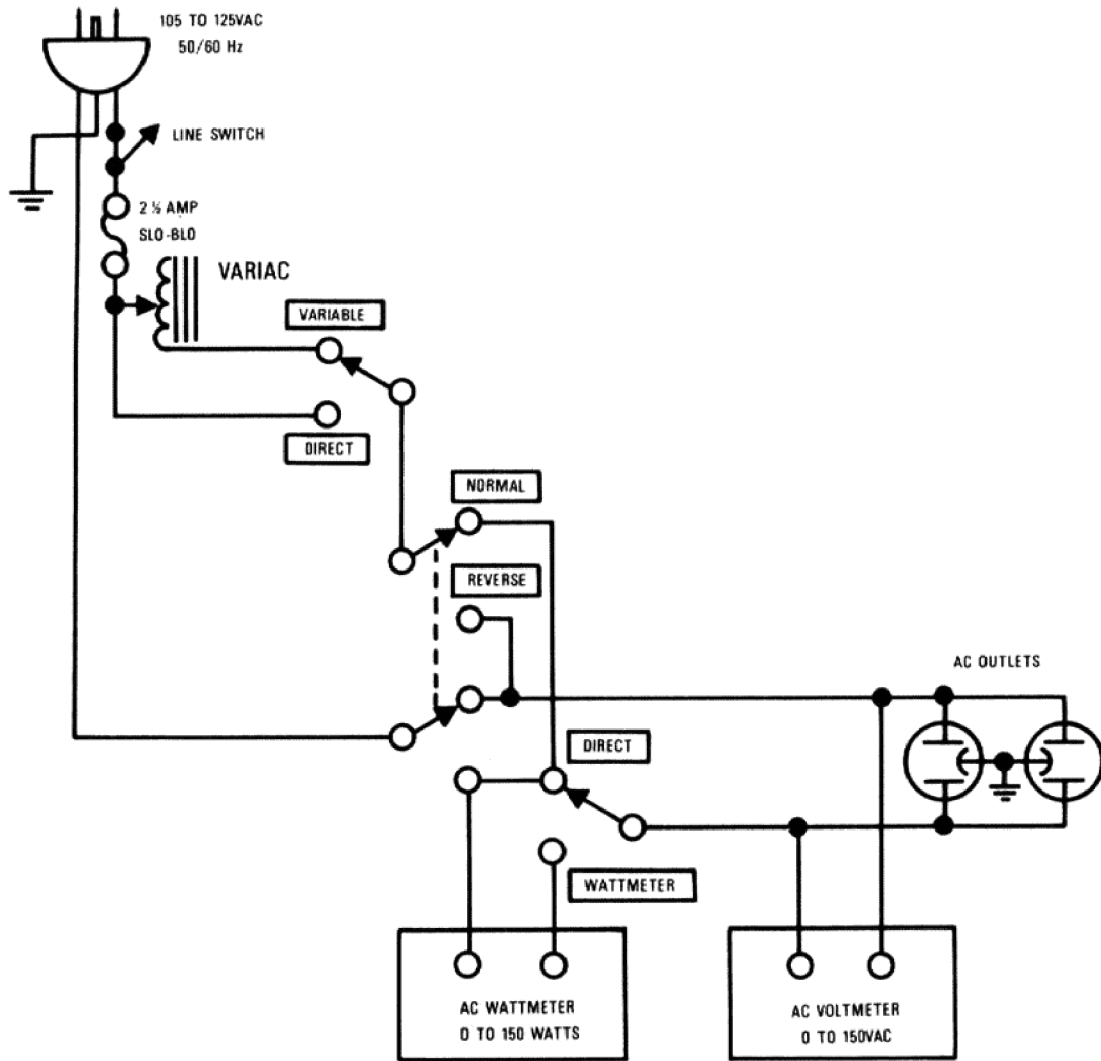
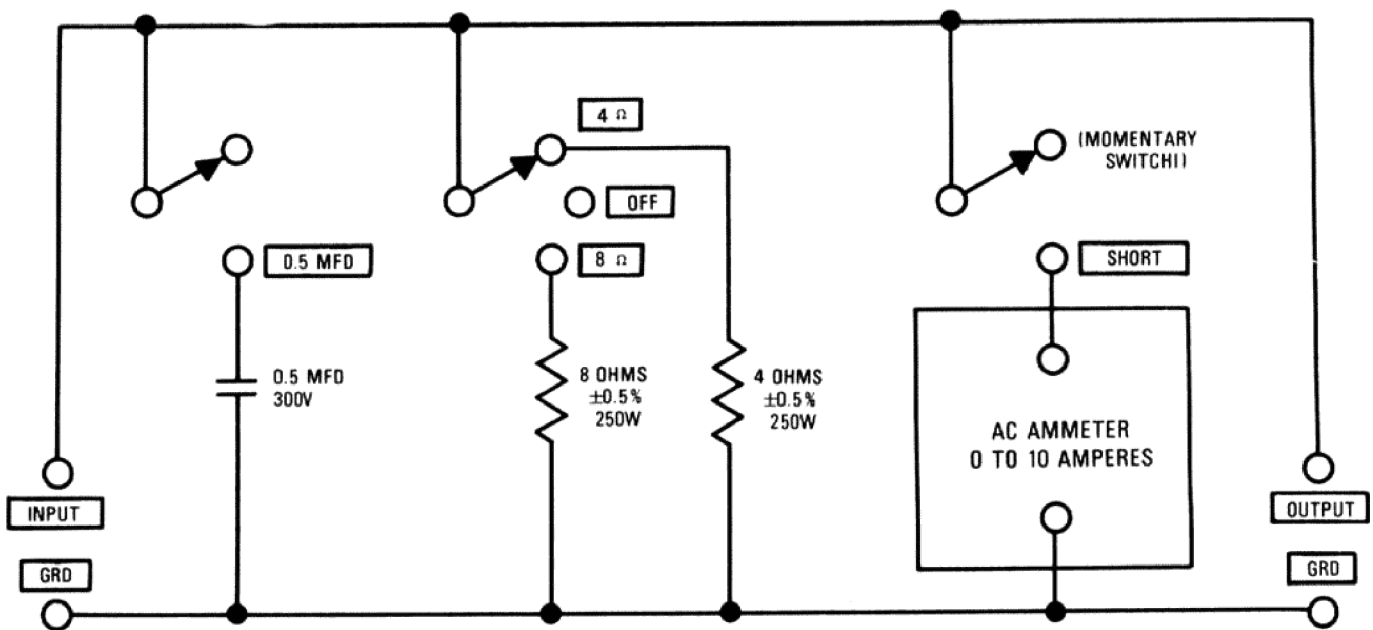

Figure 1. AC Power Control Box Simplified Schematic
Figure 2. Amplifier Output Load Box Simplified Schematic
Table 1 lists the test equipment required for servicing the Model 1060 Stereo Console Amplifier. The wattmeter, ac voltmeter, and variac may be assembled as a test fixture as shown schematically in Figure 1, and the load resistors and ac ammeter may be assembled into a second test fixture as shown in Figure 2.
1. Make the test setup shown in Figure 1 with the instrument controls set in the following positions: